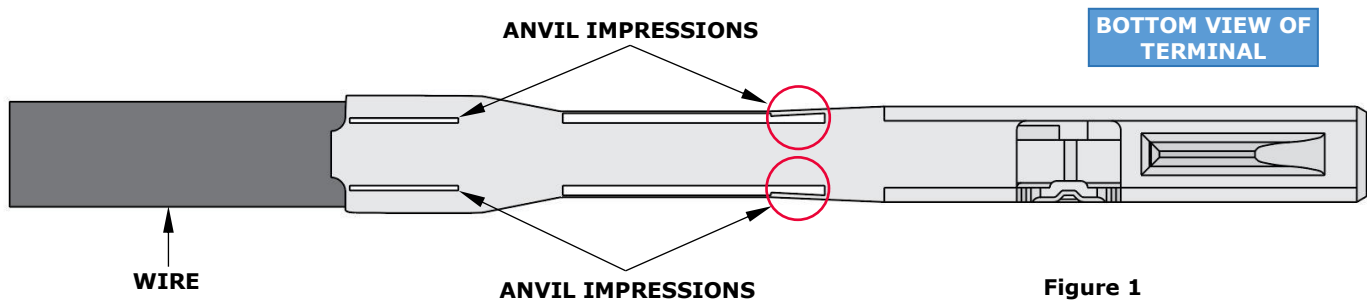

Figure 1
- This is an expected condition. See Figure 1.